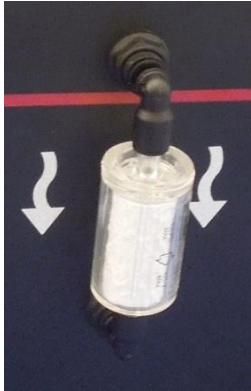

Figure 7
2. Remove the three knurled retaining screws (marked with a red arrow in Figure 7) that attach each cartridge to the generator.